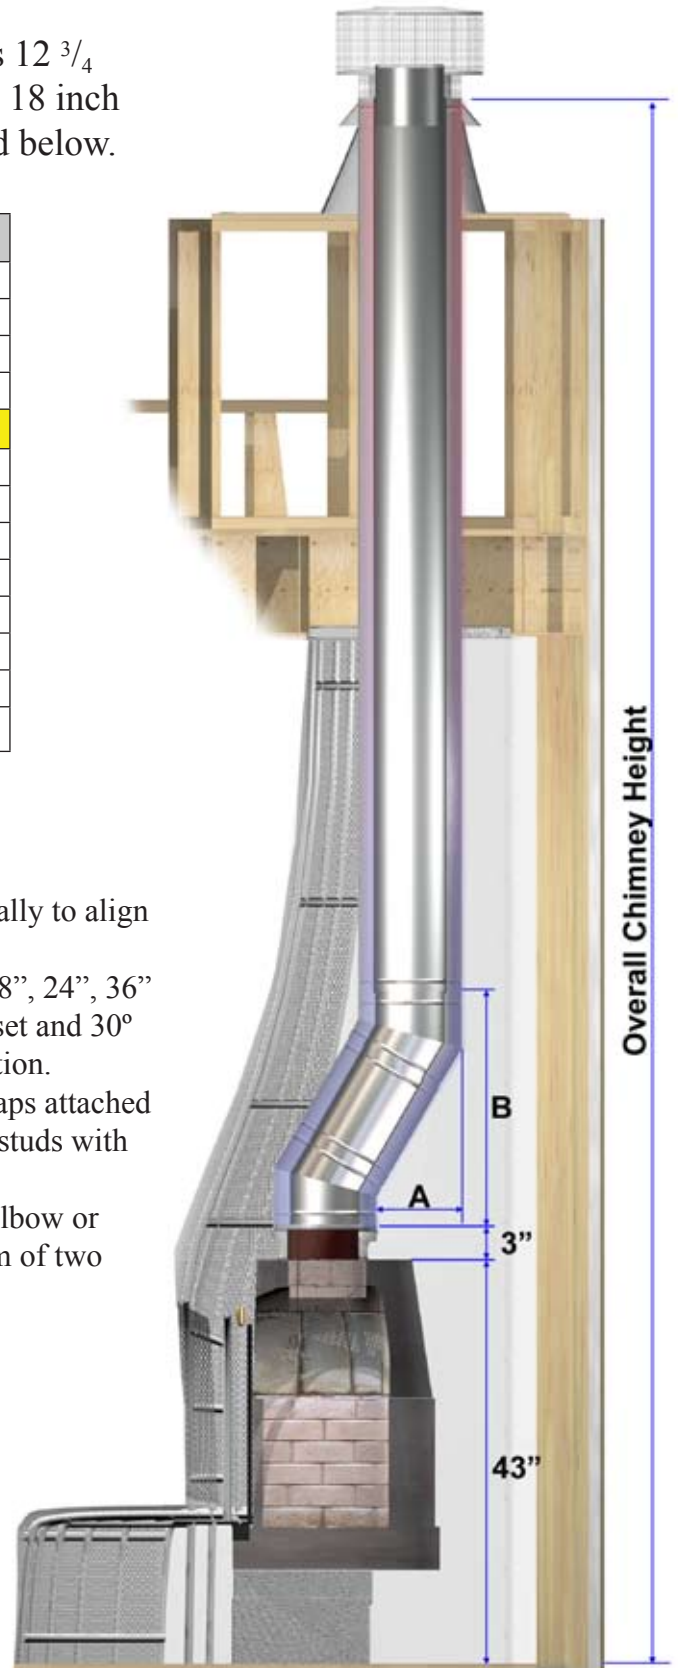

Figure 5
1. Measure overall height of chimney from floor level to minimum chimney height requirement as illustrated in *Figure 5* on the next page and following the guidelines shown above.
3. Subtract rise (B) from Offset and Rise Chart on next page for the amount of offset required for you installation.